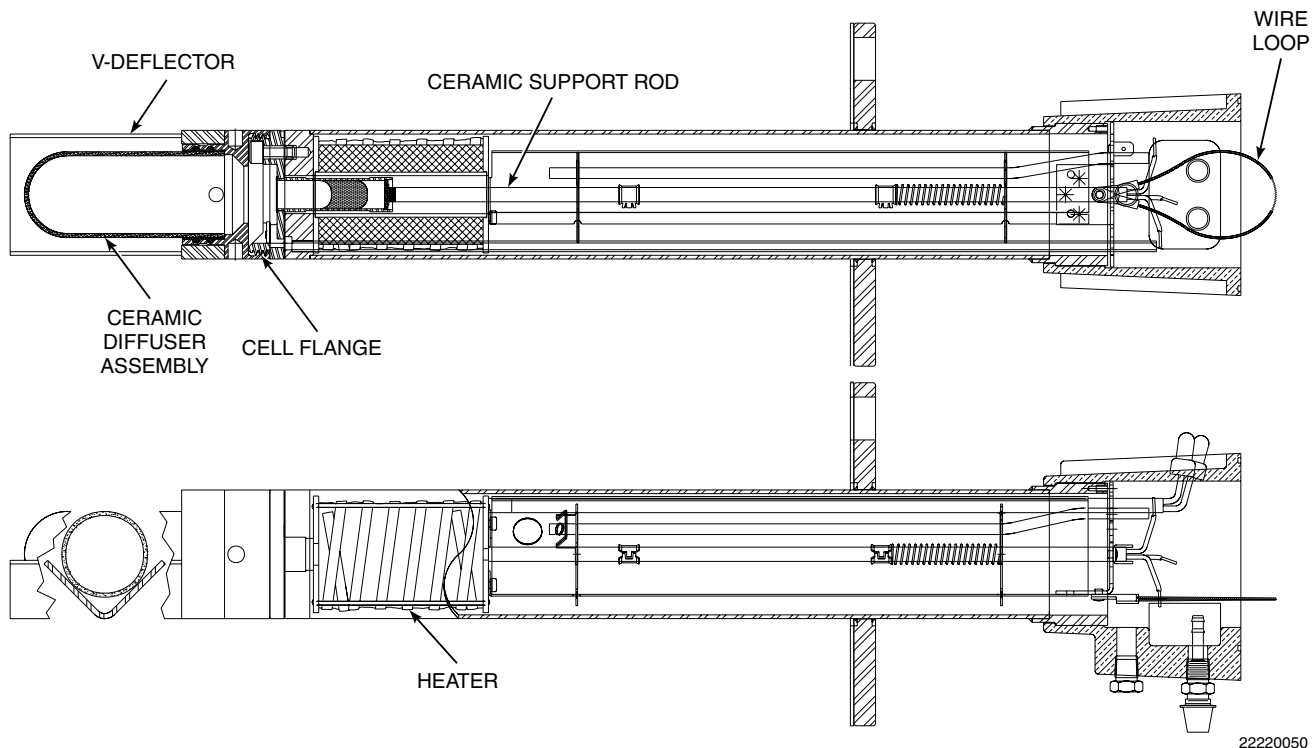

Figure 6-8. Heater Strut Assembly
- e. Grasp the wire loop and carefully slide the strut out of the probe tube (Figure 6-8).